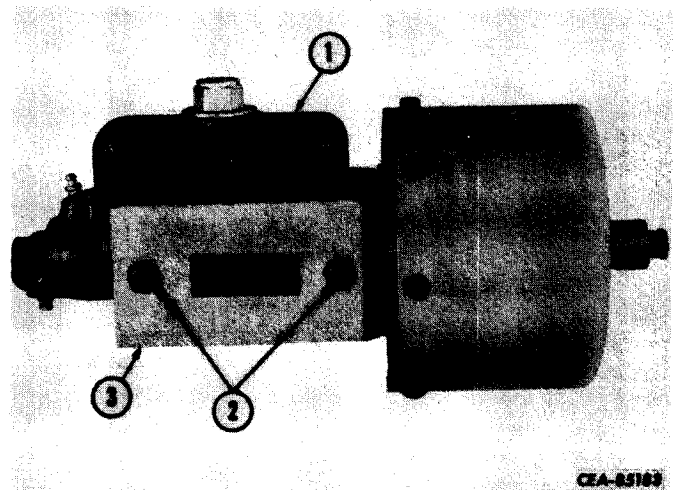

Figure 13-29
Remove cap screws and lock washers (2, Fig. 13-29) that attach hydraulic cylinder (1) to bracket (3).
Install and tighten cap screws and lock washers (2, Fig. 13-29) that secure hydraulic cylinder (1) to bracket (3).